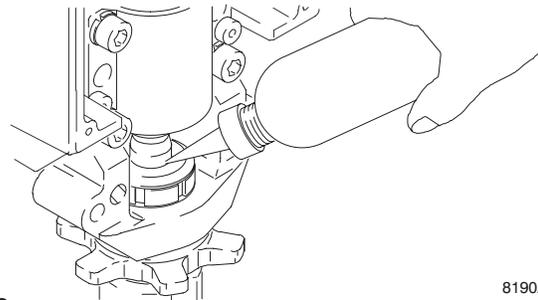

Fig. 26
- Fig. 26. Fill packing nut with Graco TSL, through one of the slits, until fluid flows onto the top of seal.